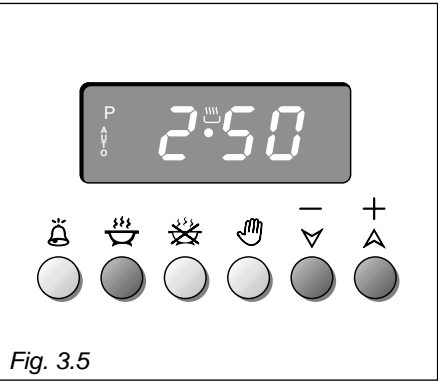

Fig. 3.5
- 1. Set the length of the cooking period by pushing the ☺ button and the ▲ (+) button to increase, or ▼ (-) to decrease if you have passed the desired time (fig. 3.5). The **AUTO** and the 🍳 symbol will illuminate.